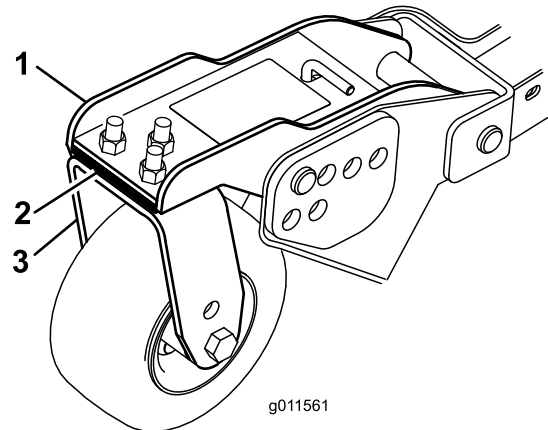

Figure 35
3. Adjust the shims (3 mm or 1/8 inch) on front caster arm(s) to match the height-of-cut decal (Figure 35).
3. If the inside edge of the side mower deck is too high relative to the outside edge of the front mower deck, remove a shim from the bottom of the front, inside caster arm on the side mower deck (Figure 35).